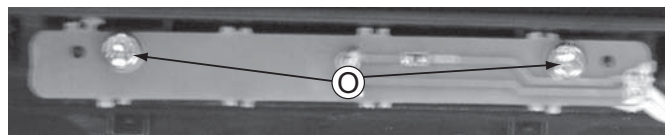

Figure 16
- 3) Loosen 2 screws "O" on the door LED PCB to remove it as shown in figure 16.